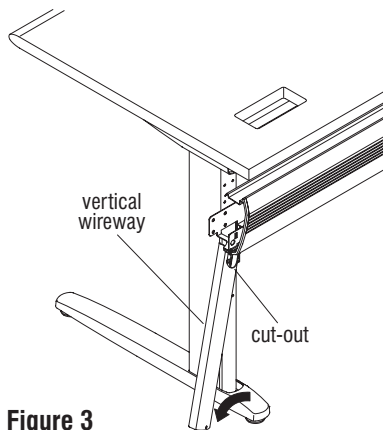

Figure 3
3. Angle the vertical wireway out at the bottom and pull down until free (Figure 3).